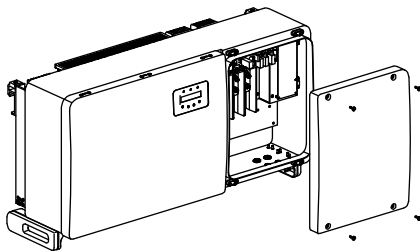

Figure 3.27 Remove the junction box cover
4) Remove the 4 screws on the inverter junction box and remove the junction box cover (Figure 3.27).